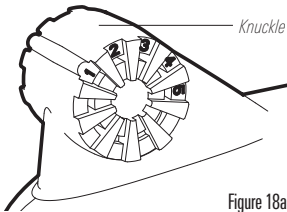
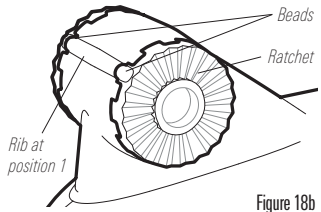
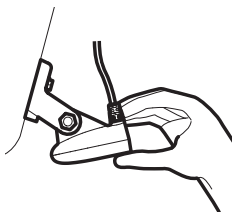
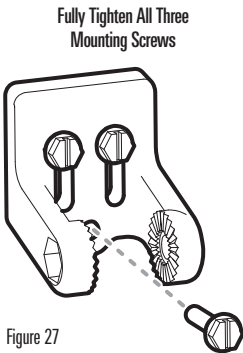

Figure 18a
Figure 18b
Figure 21
Figure 27
- Place the two ratchets, one on either side of the transducer knuckle, so that the beads on each ratchet line up with the desired position number on the knuckle (Figure 18a). If you are setting the ratchets at position 1, the beads on each ratchet will line up with the rib on the transducer knuckle to form one continuous line on the assembly (Figure 18b).
5. Adjust the initial angle of the transducer from back to front by rotating the transducer until the side seam on the transducer is almost parallel with the bottom of the boat, one click at a time in either direction (Figure 21 and 22).
If you are still not getting good high speed readings, you may need to disassemble the transducer mounting assembly and re-position the ratchets (Figures 18a - 18d).
8. Re-position the transducer bracket against the transom of the boat, then hand-install all three screws. Make sure that the transducer location has not changed, then fully tighten all three mounting screws (Figure 27). **Hand tighten only!** Re-install the transducer to the mounting bracket, making sure to assemble the ratchets in the same location they had before. (See Figures 18a - 18d and Figure 21 - 22). If you have performed the preceding procedures correctly, the transducer should be level and at the right height for optimal operation.